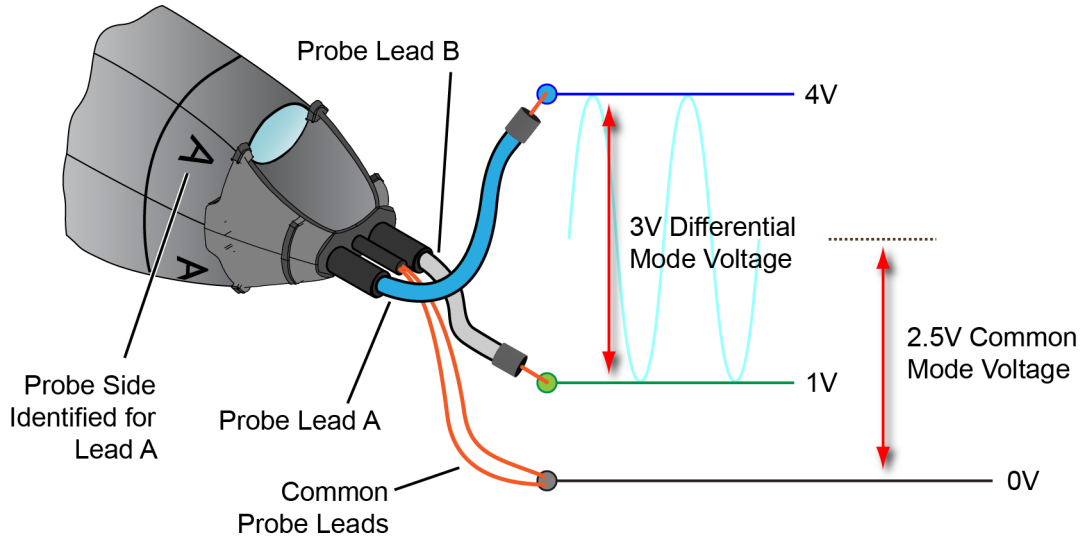

Figure 9 Example InfiniiMode Probe Circuit Connections
When probing a differential or common mode signal, connect the probe tips as shown in the example circuit of **Figure 9**. Notice that the sides of the probe are marked **A** and **B** to identify the two signal leads.
**NOTE** The lead's color allows you to easily distinguish between the **A** and **B** leads. **Figure 9** shows the blue lead oriented so that it is lead **A**. The tip could easily be removed and rotated 180° so that the blue lead becomes the **B** lead.